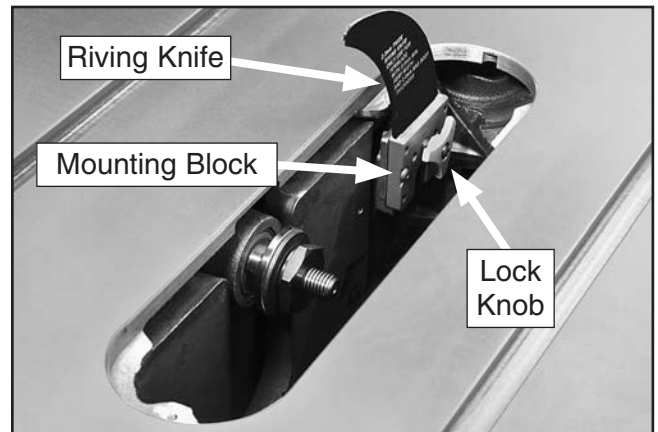

Figure 40. Riving knife installed.
- Unthread the lock knob on the riving knife/blade guard mounting block (**Figure 40**) several turns. Push the riving knife away from the knob, then lift the riving knife up to remove it.